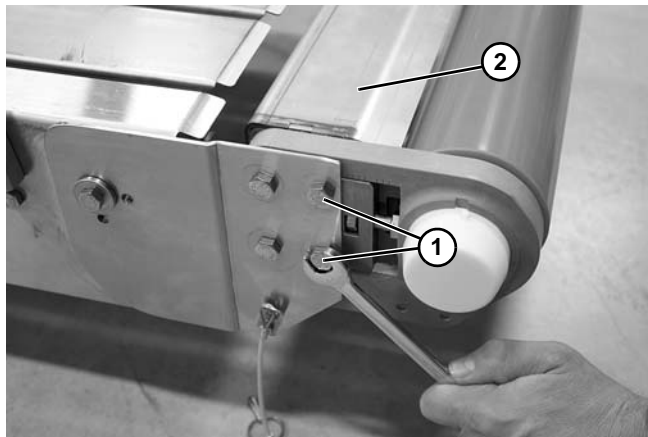

Figure 80
Support bracket (Figure 80, item 2) will not be attached and could fall.
2. Remove two headplate screws (Figure 80, item 1). Repeat on opposite side of the conveyor.